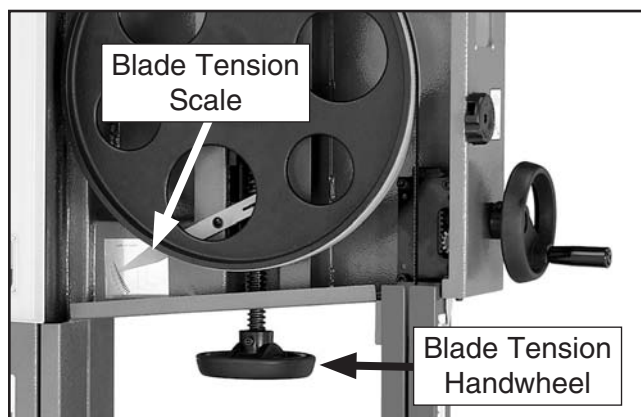

Figure 29. Blade tensioning controls.
3. Engage the quick tension lever and turn the blade tension handwheel until the tension scale (**Figure 29**) reads between 4 and 6.